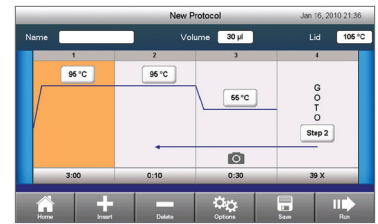

Fig. 7. Default real-time PCR protocol.
- To create a new run, touch **New Protocol** in the home screen to open a New Protocol template (Figure 7); touch the **Name** field, then enter a protocol name to save